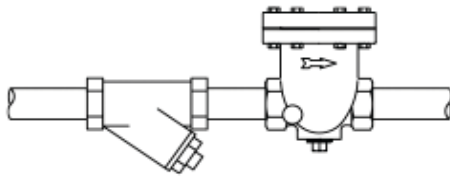

Figure 3. A Series Industrial Traps have either vertical or horizontal outlets. Pipe plug is for draining if there is danger of freeze-up.
8. Install an Emerson strainer, a dirt pocket or both, close to trap inlet. See Figures 3, 4 and 5.